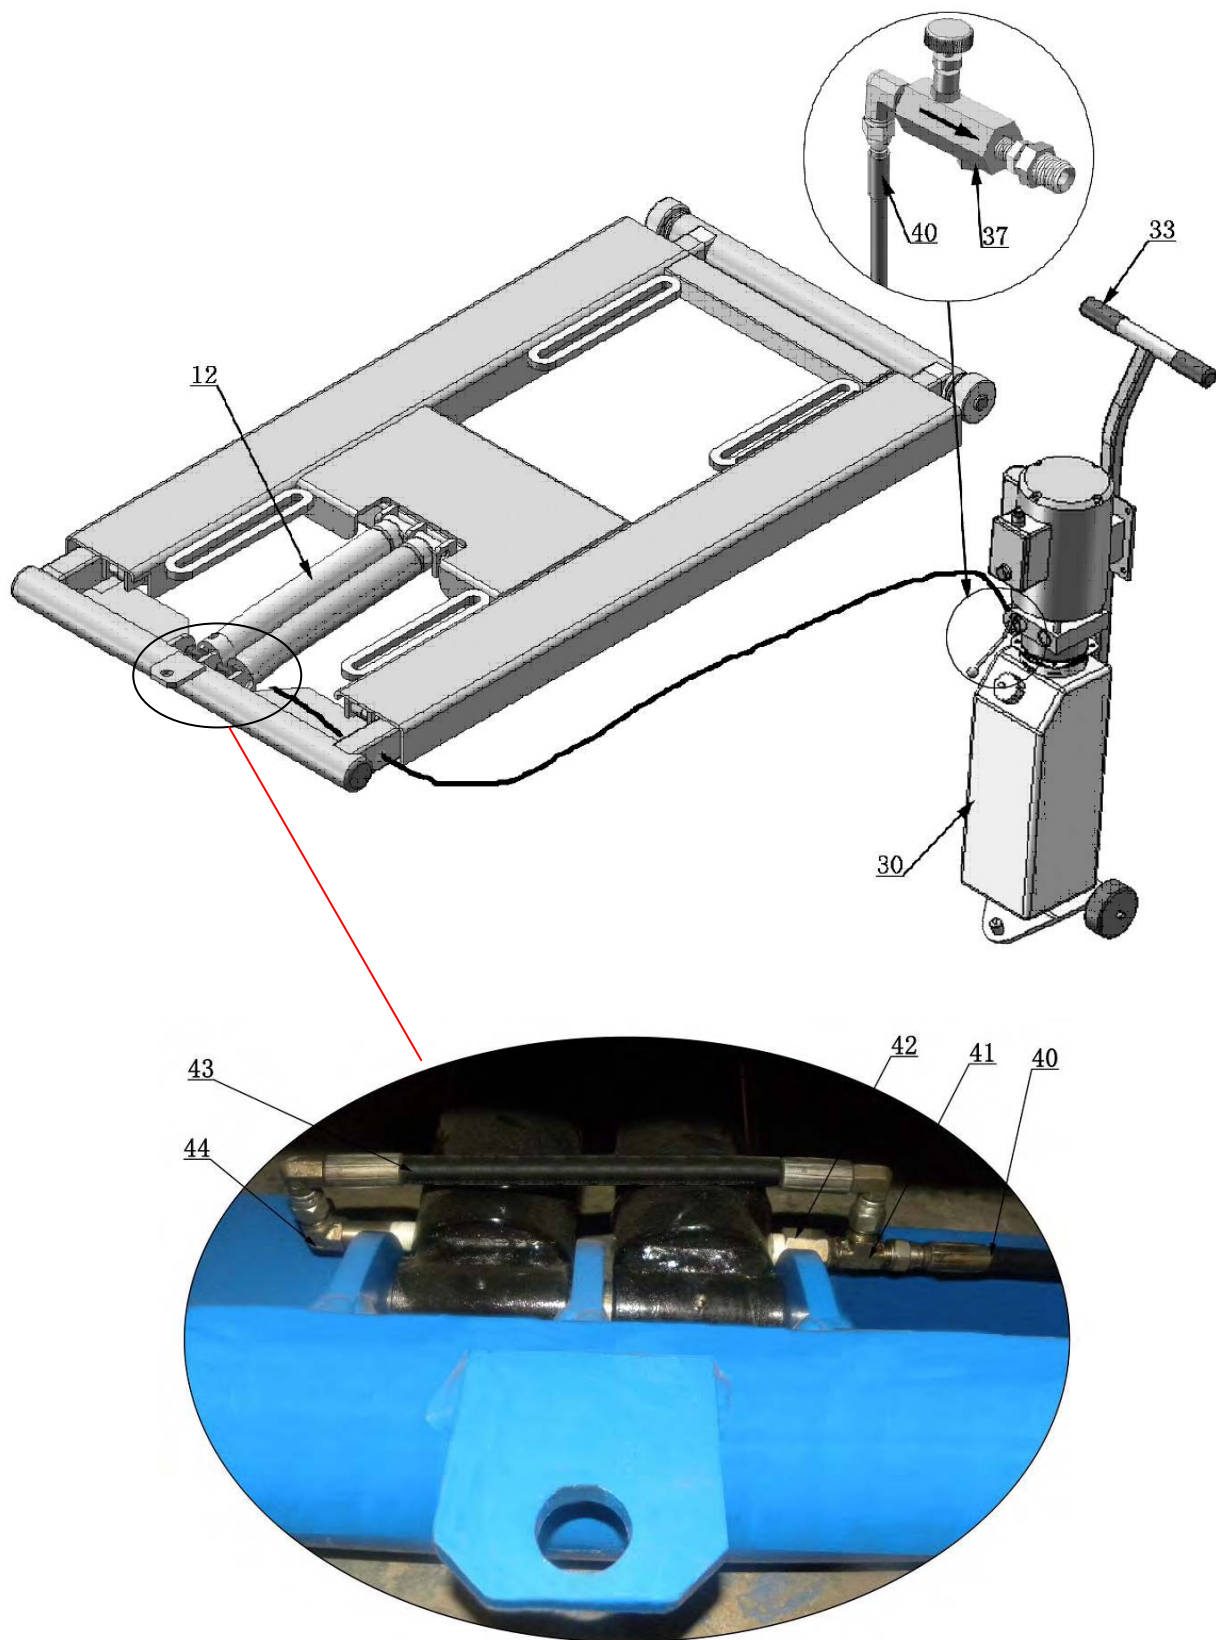

Fig. 7
C. Install oil hose (See Fig. 7)